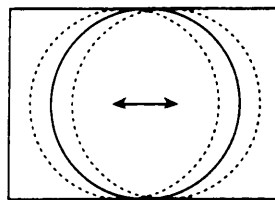

Fig 3.
- d: Adjust the horizontal location to obtain picture centring (fig 3).